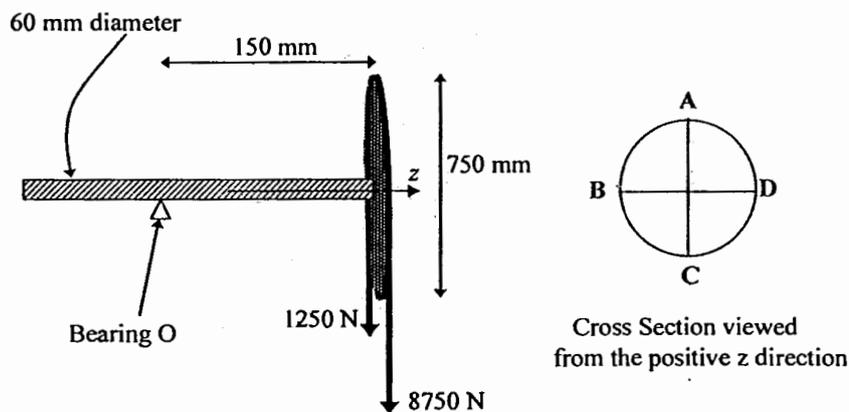

Fig. 3
5. A shaft 60 mm in diameter is supported at bearing O and carries a 750 mm diameter pulley with a weight of 2.5 kN at the overhanging end and loads as shown in Fig. 3. At the bearing, calculate the axial and shear stress in an infinitesimal element at location A in the cross section of the shaft. Draw the Mohr's circle for the state of stress at this point and from the Mohr's circle find the two principal stresses and the maximum shear stress. Again, using the Mohr's circle, find the angle the normal to the plane on which the maximum principal stress acts makes with the axis of the shaft. (20 Marks)